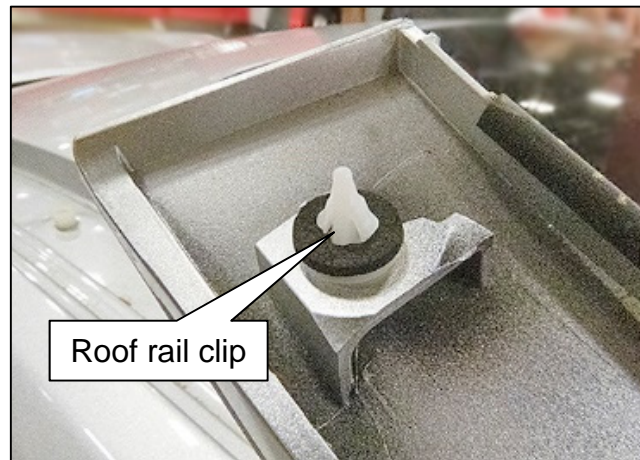

Figure 8
8. Install a new roof rail clip, as shown in Figure 8.